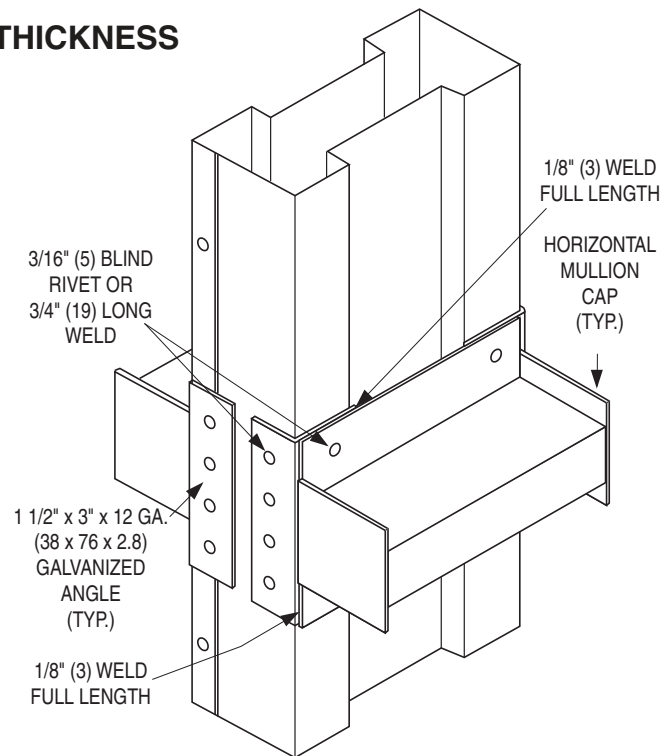

FIGURE 4
5. Set horizontal mullion caps at vertical mullions as shown (**Figure 4**). If steel lintels are present, four 1" (25) welds (two per mullion cap leg) may be used to anchor each mullion cap.